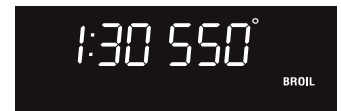
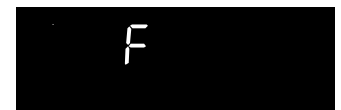

Fig. 3
Fig. 4
1. To tell if the display is set for Fahrenheit or Celsius press  (Fig. 3) and hold for 7 seconds; "**550°**" will first appear in the display and then a beep will sound. If "**F**" appears, the display is set to show temperatures in Fahrenheit (Fig. 4). If "**C**" appears, the display is set to show temperatures in Celsius (Fig. 5).
2. Press  to switch between Fahrenheit or Celsius display modes. The display will show either "**F**" (Fig. 4) or "**C**" (Fig. 5).